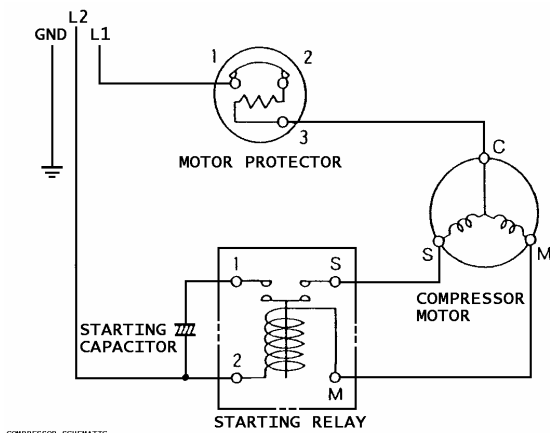

Figure 18. Compressor Schematic
- Defective overload (motor protector). Wait 10 minutes. Check across overload terminals 1 and 3 for continuity with the ohmmeter. Refer to Figure 18 on page 18.
- Defective start relay. Use an ohmmeter to check continuity across coil terminals 2 and M. Refer to Figure 18 on page 18.
- Compressor has open windings. Check compressor windings with an ohmmeter. Refer to Figure 18 schematic on page 18.
2. To check relay (see Figure 18), unscrew lead terminals and remove relay from compressor. Keep relay upright. Check between terminals 1 and S. Replace relay if continuity exists.
4. Check compressor windings using ohmmeter section. Refer to Table 2 and Figure 18.